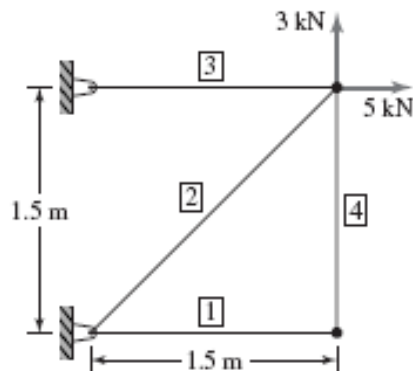

Figure P2.8
8. The plane truss shown in **Figure P2.8** is composed of members having a square $15 \text{ mm} \times 15 \text{ mm}$ cross section and modulus of elasticity $E = 69 \text{ GPa}$. Determine the nodal displacements and the stresses in each element.